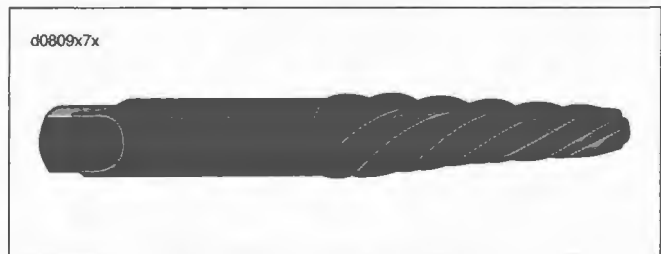

Figure 7-14. Screw Extractor
- See Figure 7-14. In next step use of a screw extractor is employed to remove shift shafts.